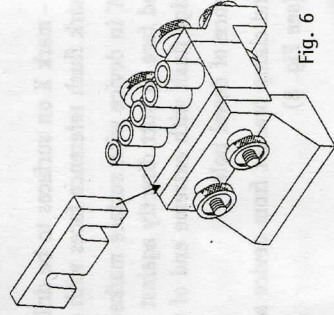

Fig. 6
5. For offset joint, install spacer between reference plate and reference block and tighten assembly (see Fig.6) (Finger tight only, do not use tools)